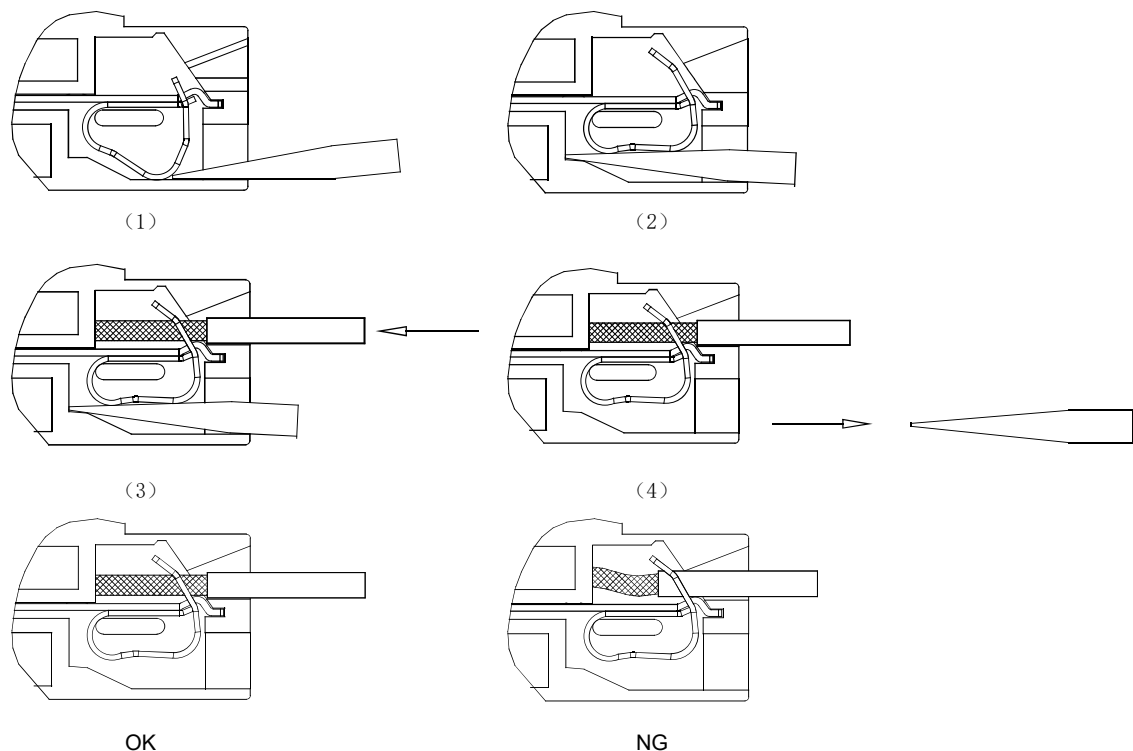

Figure 5
- The method of Wiring as shown in figure 5.